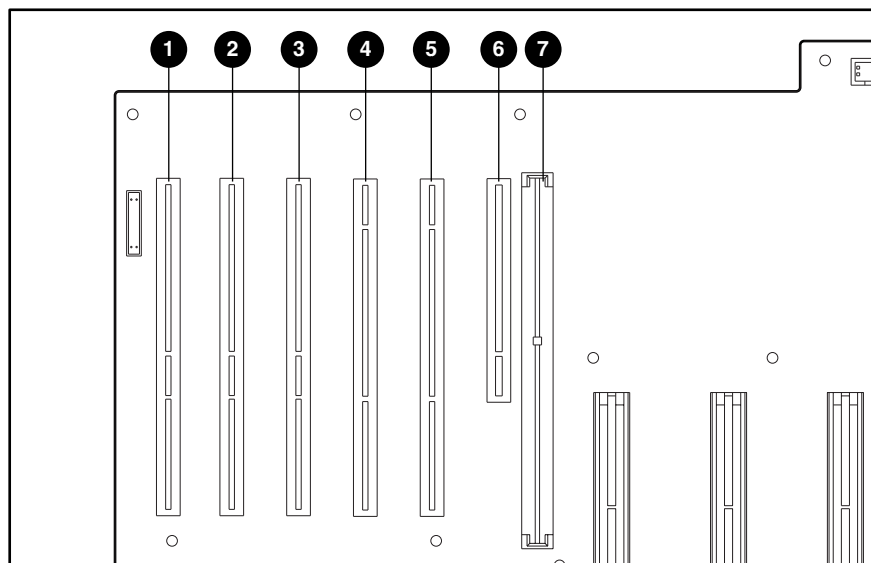

Figure 2-28. Hot-plug and non-hot-plug slots on the system board
- The PCI Hot Plug button and the PCI Hot Plug utility allow power to the PCI Hot Plug slot to be powered on or off. However, the PCI Hot Plug button allows direct access at each PCI Hot Plug slot. Figure 2-28 shows the hot-plug and non-hot-plug slot locations on the system board. Table 2-7 identifies the slots.